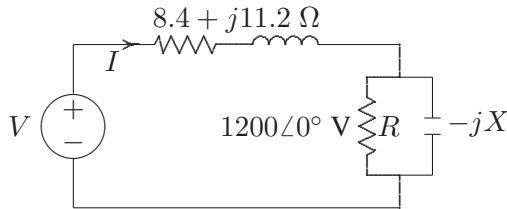

FIGURE 7
2.6. The load shown in Figure 7 consists of a resistance R in parallel with a capacitor of reactance X . The load is fed from a single-phase supply through a line of impedance $8.4 + j11.2 \Omega$. The rms voltage at the load terminal is $1200\angle 0^\circ$ V rms, and the load is taking 30 kVA at 0.8 power factor leading.